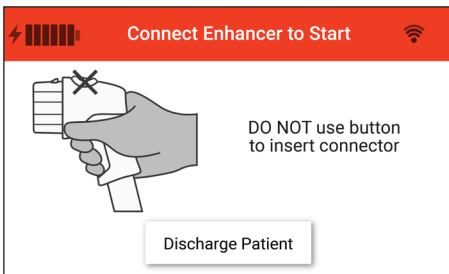

Figure 24. Connect enhancer to controller screen
1. Insert the connector into the front of the controller to dismiss the alert. Do not use the button to insert the connector. Push in until there is a click. (Fig. 24)